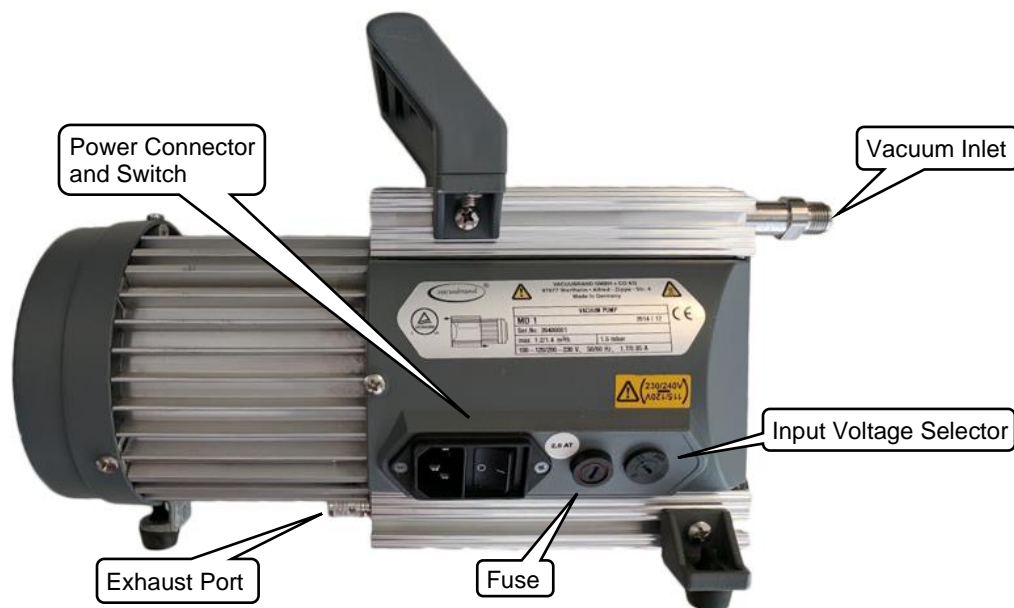

Figure 6: Pump Voltage Selection
5. Set the vacuum pump input voltage to the correct level for your area by rotating the voltage selector switch located on the side of the pump next to the fuse holder (shown in Figure 6 below).